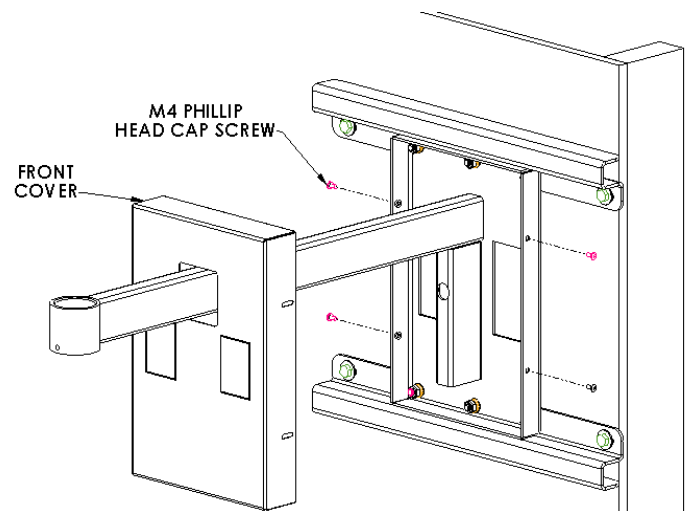

Figure 6. Attach Front Cover
1. Locate front cover (30) and four M4 8mm Phillips head cap screws (90).
2. Install the front cover (30) using four M4 8mm Phillips head cap screws (90). See Figure 6.